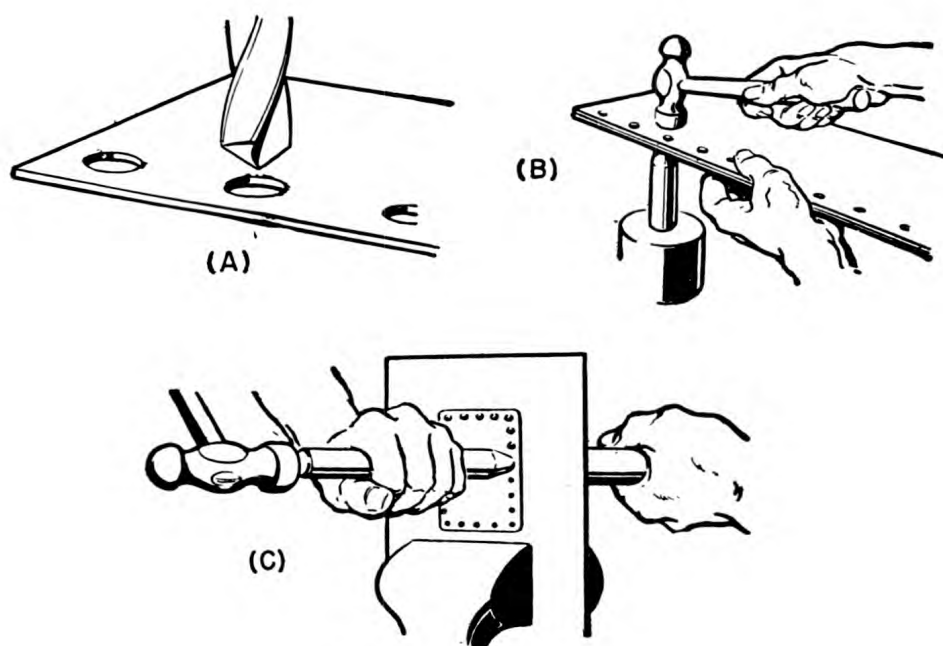

Figure 73.—Riveting.
After the holes have been drilled, remove all burrs by filing them off or by using a reamer or countersink. A drill slightly larger than the hole is sometimes used to file off these burrs as in (A) of figure 73.
Now, place the section of metal to be riveted over the bucking block with the rivet head resting in the cup, as in figure 73(B.) If the riveting is to be done on a structural piece, a separate rivet set and bucking bar must be used like that in figure 73(C).